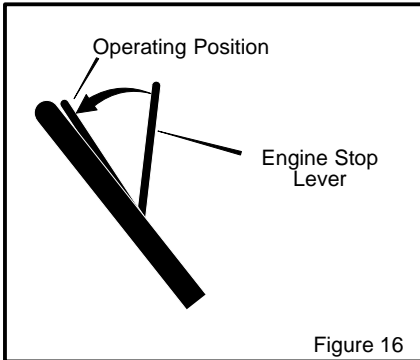
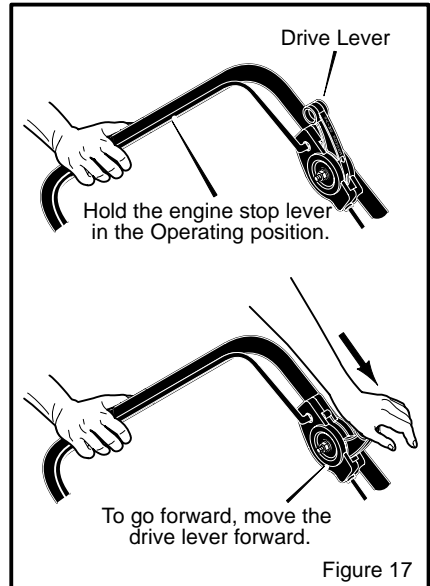

Figure 16
Figure 17
Release the **engine stop lever** and the engine and the blade will automatically stop. To run the engine, hold the **engine stop lever** in the **Operating position** (Figure 17).
1. Hold the **engine stop lever** in the **Operating Position** (Figure 16 and Figure 17).